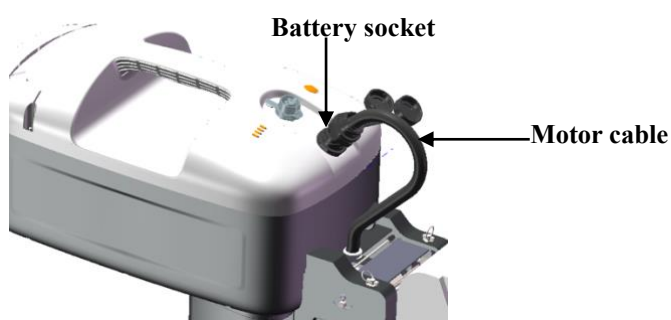

Figure2-7
1. Connect the **motor cable** to the **battery socket** on the battery pack, aligning it with the positioning groove on the socket, and rotate it clockwise to lock the cable. Refer to Figure 2-7.